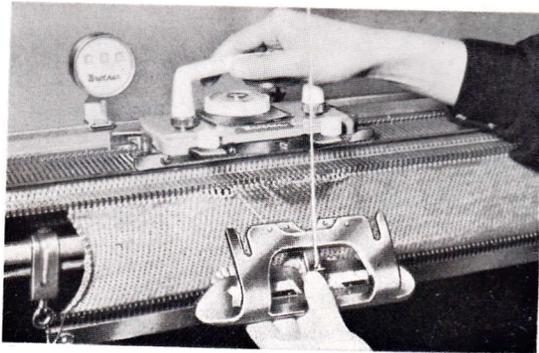

Fig. 37
- a. Loosen the thumb screws of the sinker plate, pull off the sinker plate from the carriage. (See Fig. 37)